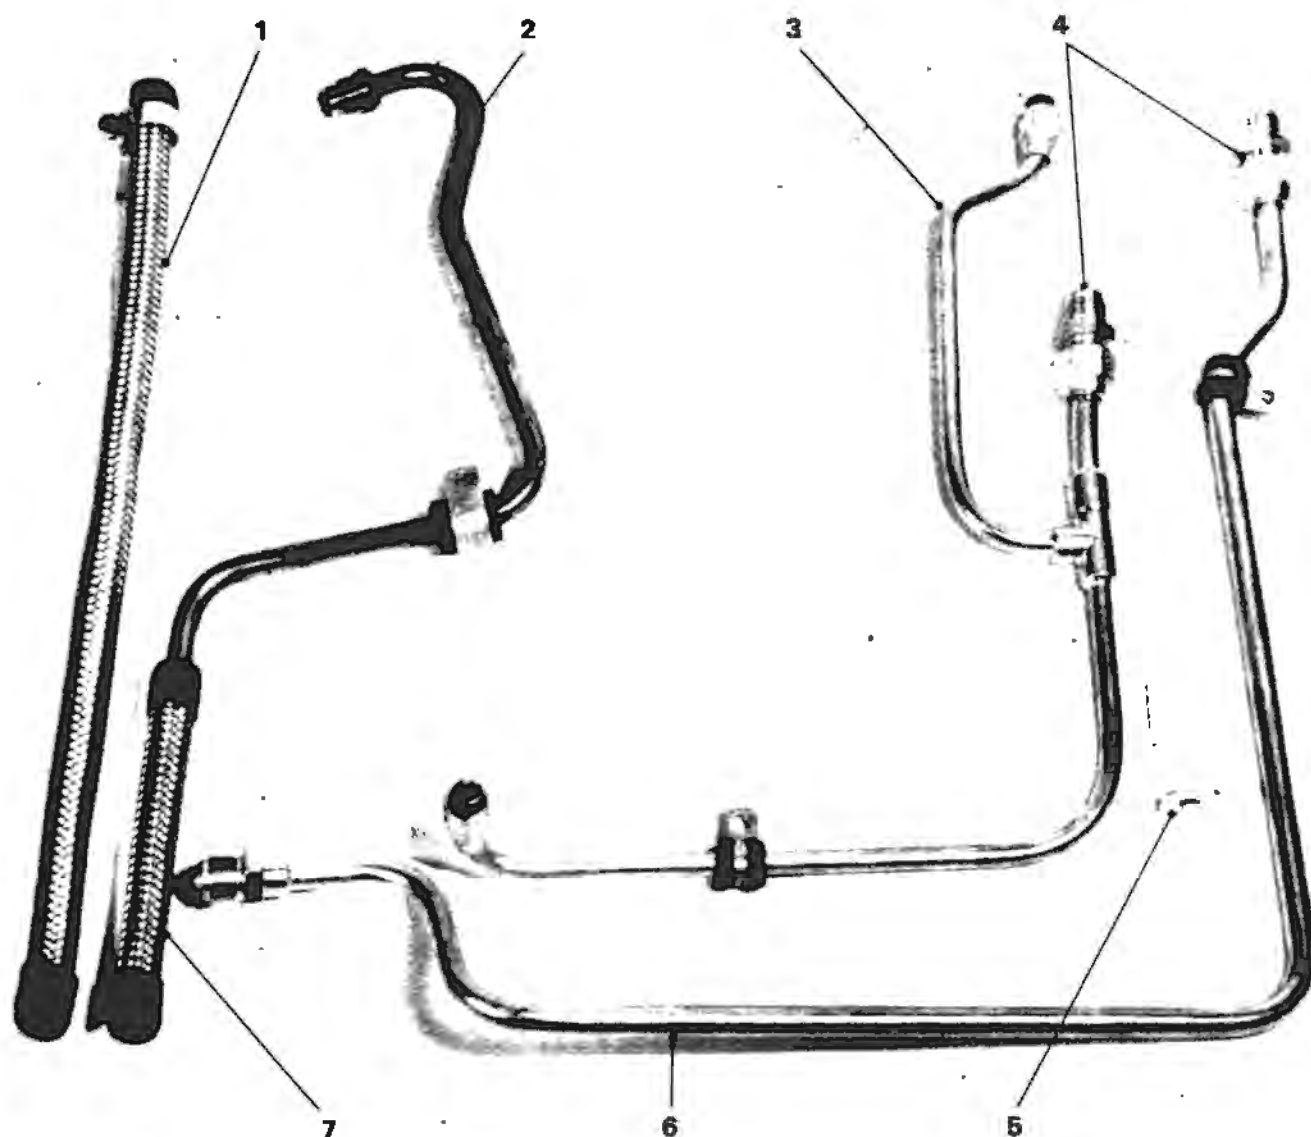

Fig. 4 New fuel pipes
- 5.4 Disconnect the petrol supply pipe at the rear of the engine and at the carburettor float chambers then remove the pipe. From the kit, fit the petrol supply pipe from the rear of the engine to the fuel cooler assembly and the petrol supply pipe from the cooler to the carburettor float chambers (see Fig. 4). The connections to the fuel cooler utilises the two unions supplied in the kit.
Fit the small right-angled bracket (item 5. of Fig. 4) to the $\frac{1}{2}$ in. UNF tapped hole which will be found to lie directly between the two pipes on 'A' bank cylinder head. Using two 'P' clips clamp the two petrol feed pipes to the right-angled bracket and tighten all connections.